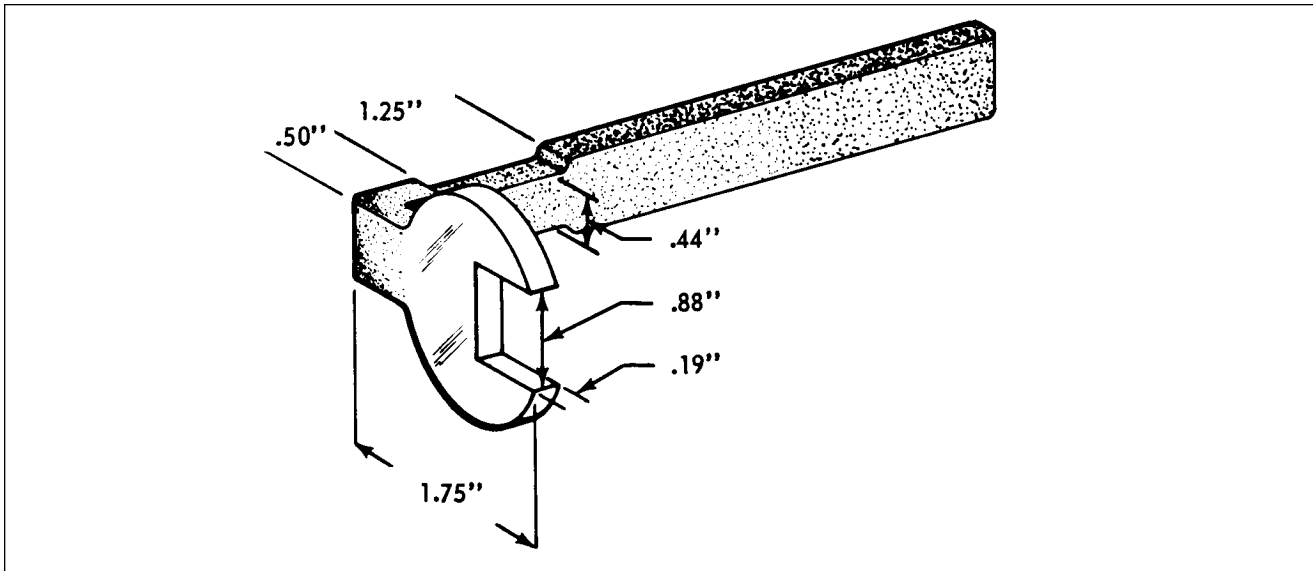

Figure 4-8. Fabricated Tool for Baggage Door Lock
- a. With the door open remove the nut from the back of the lock assembly by use of a special made wrench. (This tool may be fabricated from the dimensions given in Figure 4-8.)